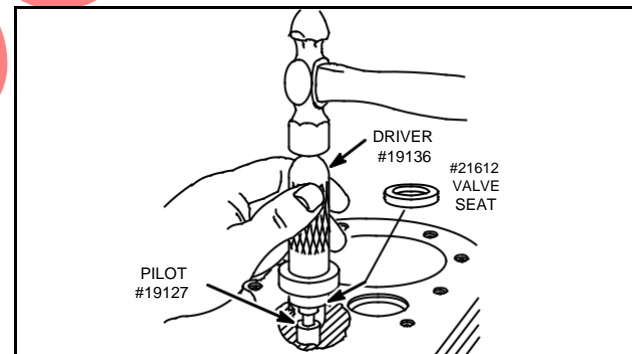

Fig. 29 – Install Valve Seat
8. Drive seat insert in until it bottoms, Fig. 29.